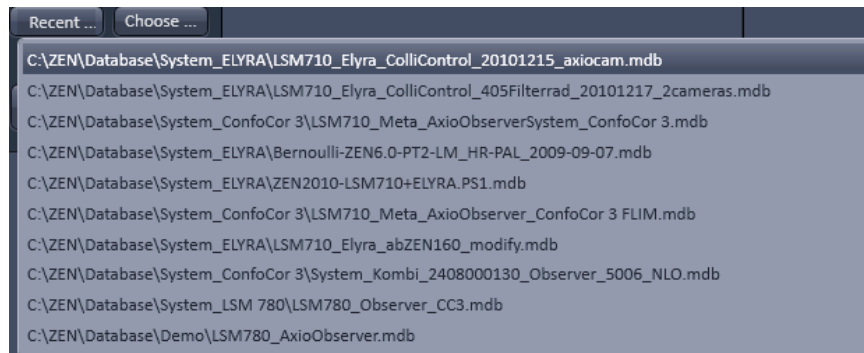

Fig. 12 Recent databases
- If **Recent...** is pressed the last couple of databases that were in use will be displayed (Fig. 12). Click on the one you want to select. By pressing the **Choose...** button Windows Explorer will open. Search for the folder file the database is stored and and open it. Select it for use. Select a database suited for your purpose from the Explorer window.